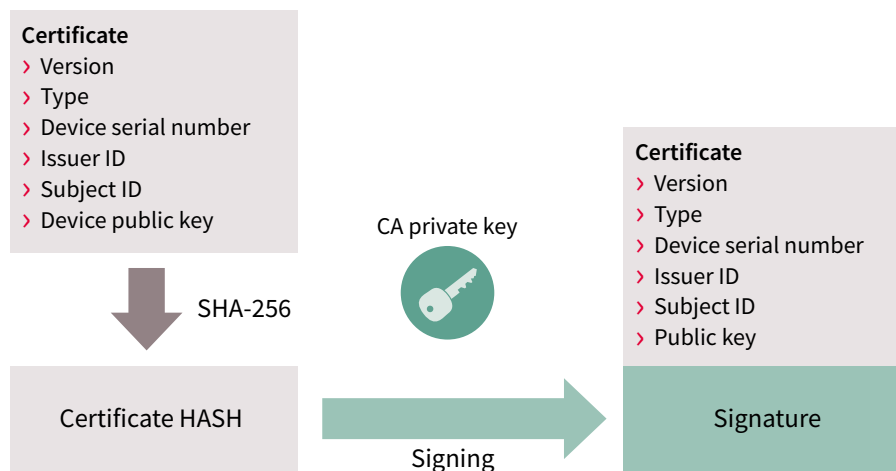

Figure 1: ECDSA signing process
The overall PKI framework is then based on certificates, which are created and signed by a certificate authority (CA). The certificate is created to include public key and other identifying information about the device, such as the device's serial number, the issuer of the certificate, and what kind of certificate it is. The CA then makes a hash digest of the certificate using a SHA-256 algorithm and signs this digest with a CA private key (see Figure 1). Every certificate will have a unique signature, because the hash of the certificate is unique. More importantly, only someone with the correct CA private key can create the correct signature. Therefore, both the private key and the manufacturing steps that sign it must be properly secured.